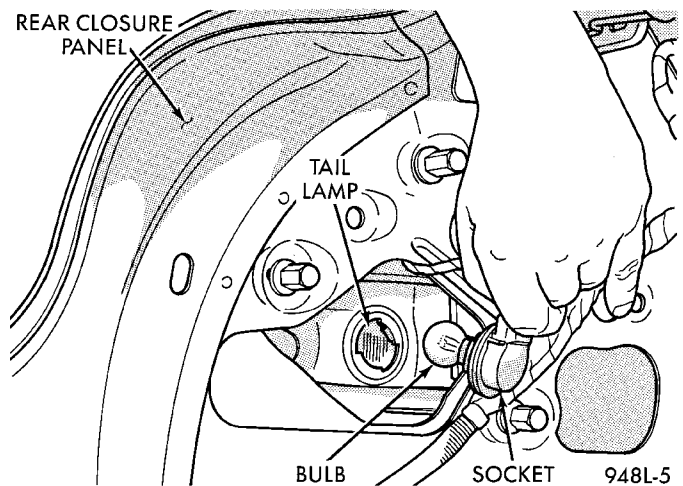

Fig. 6 Tail and Stop Lamp Bulb
- (1) Release trunk latch and open trunk lid.
- (2) Separate trunk lining from rear closure panel to gain access to back of tail lamp.
- (3) Rotate and remove bulb socket from tail lamp through openings in rear closure panel (Fig. 6).
- (4) Pull bulb from socket.